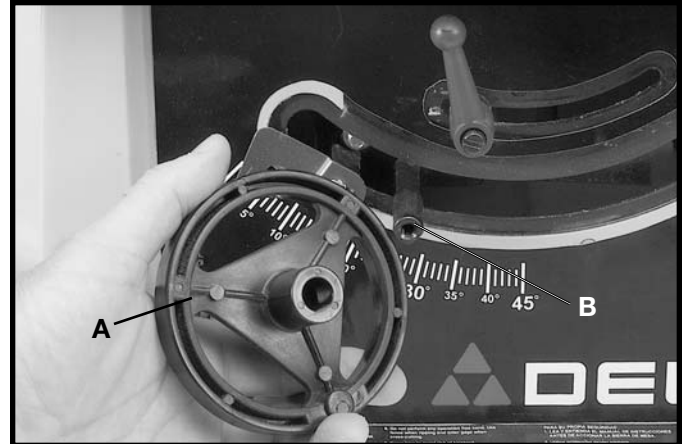

Fig. 4
3. Assemble handwheel (A) Fig. 4, to shaft (B) making sure the flat on inside of handwheel lines up with flat on shaft.